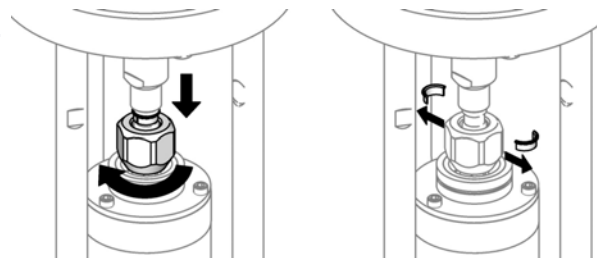

FIG. 8. Remove coupling collars.
4. Lower the coupling nut (7) and remove the coupling collars (5). See FIG. 8.
5. Push up the motor shaft. Remove the coupling nut (7).
6. Use a socket to remove the tie rod nuts (4).
8. Lift up on the air motor to remove it. The tie rods (3) will remain attached.